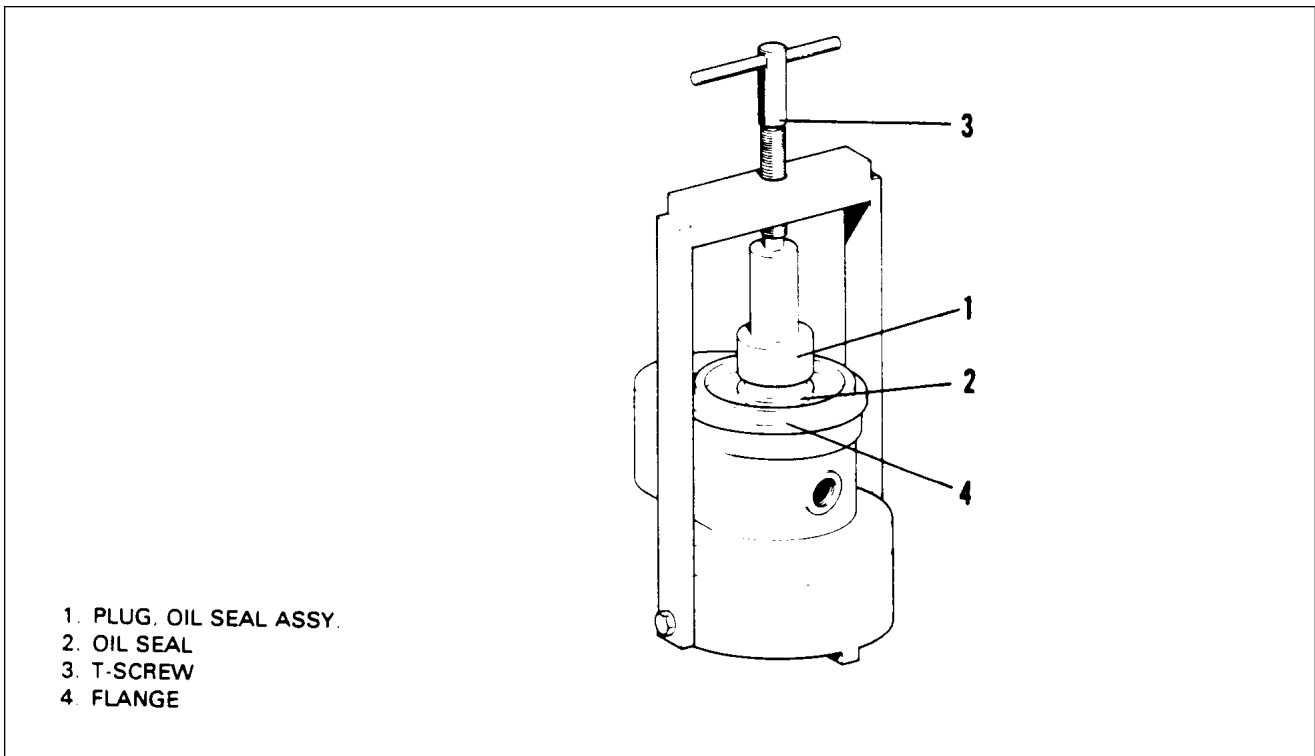

Figure 74-6. Magneto Oil Seal Installation on T-100
- j. Reverse magneto on T-100 assembly and timing tool so flange of magneto is facing up. (Refer to Figure 74-6.)